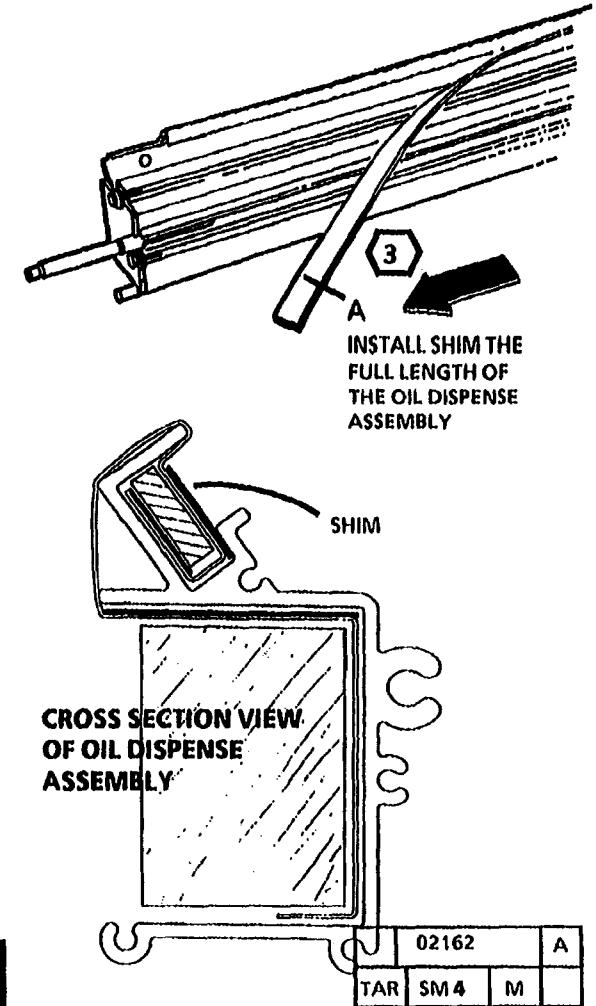

Figure 4. Install the Shim
4. (Figure 4): Install the Shim.